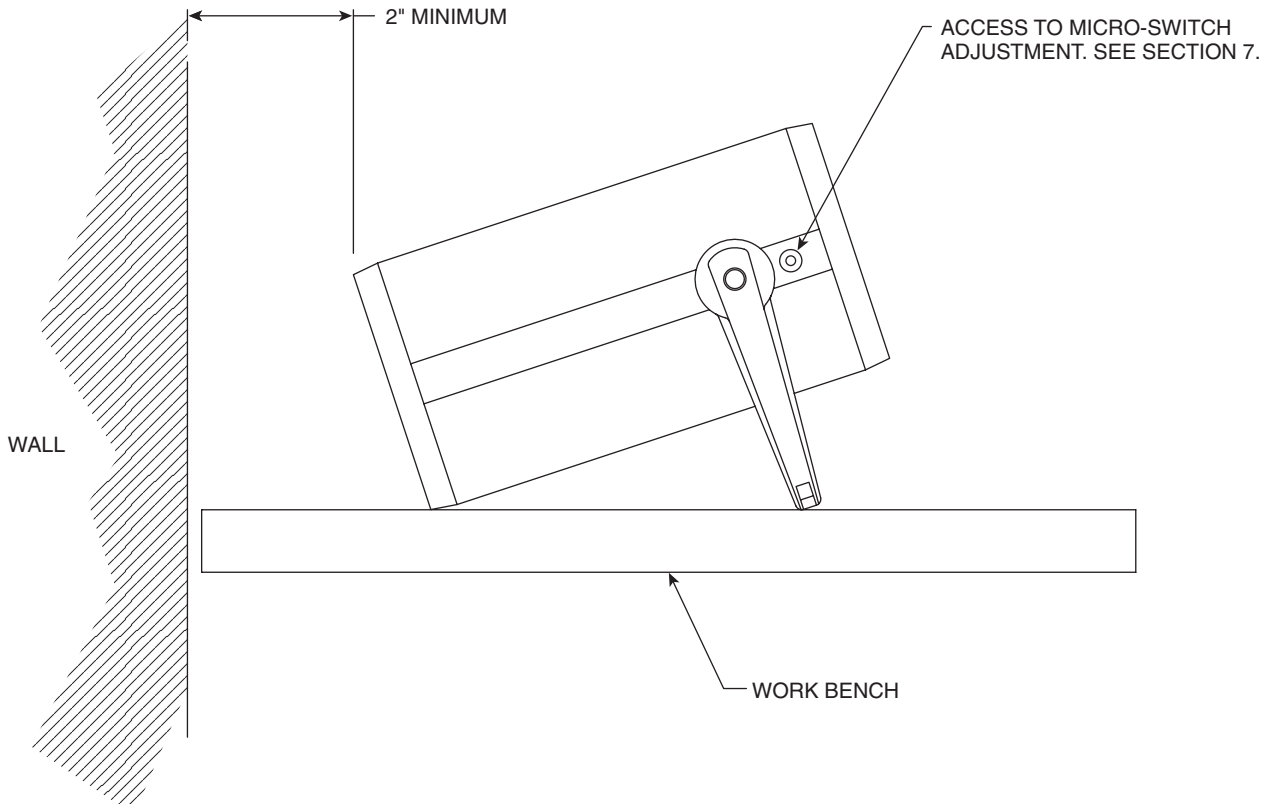

Figure 4. Tilt positioning for operation (side view)
Mount the unit on a bench, table top or shelf in a tilt position and operate at least 2" from any air obstructions to the fan, front panel, rear panel, and top of the unit (See Figure 4).
2. Be sure to have the unit in a tilt position during operation so that the mineral oil does not drip out of the unit. (See Figure 4).
- Locate the adjustment access hole. It is located on the left side of the unit, adjacent to the handle pivot. - see figure 4